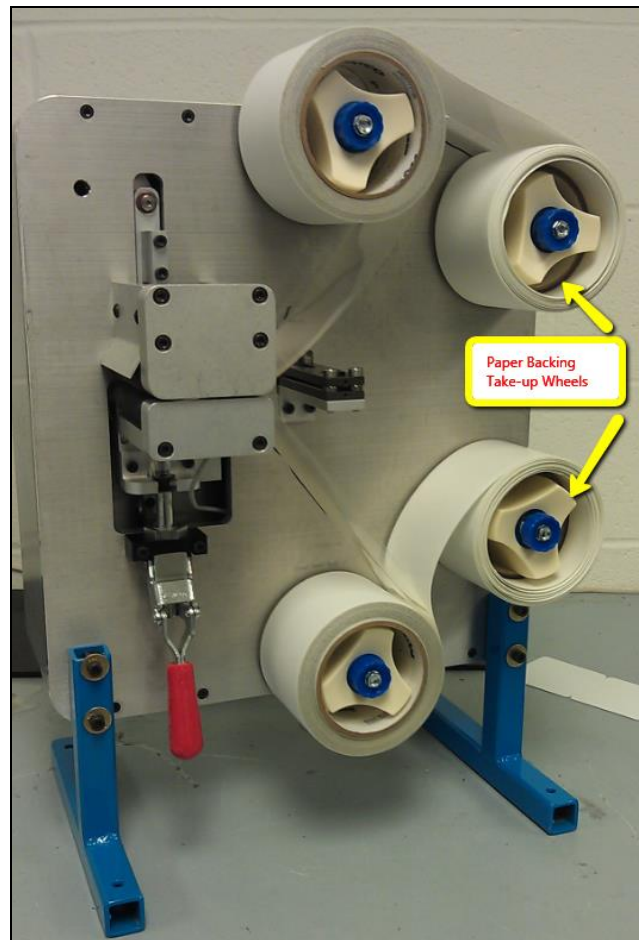

Figure 1
Before loading tape, make sure the power to the laminator is OFF. Refer to Figure 1 below.
3. If using Shot Blast Laminate, feed the paper backing on the shot laminate onto the take-up wheels as seen in Figure 1.